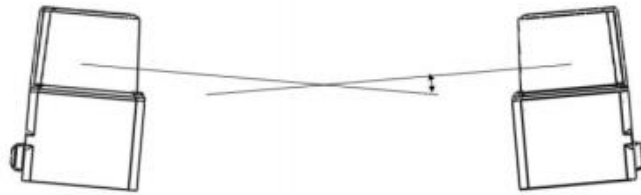
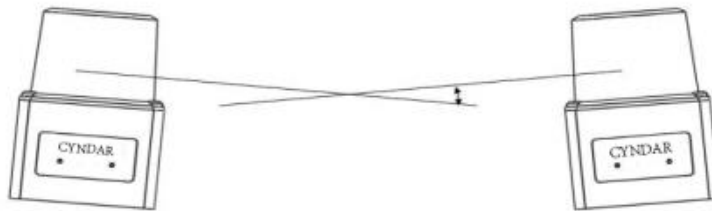

Figure 16. Parallel installation diagram (1)
Figure 17. Parallel installation diagram (2)
1. When two or more radars are installed in parallel, it is recommended to incline the radar downward at a certain angle to avoid counter shooting, as shown in Figure 16 and Figure 17;